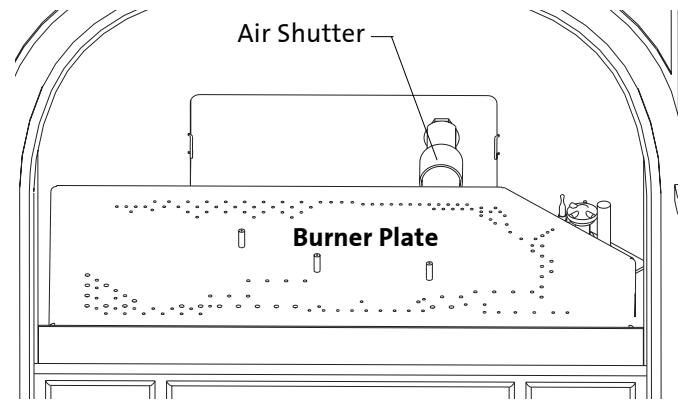

Figure 23. Remove the Air Shutter and Burner as a unit.
7. Lift out the Burner Plate: NOTE: There are no screws securing the Burner to the floor of the firebox. Pull the Air Shutter forward and lift the burner together with shutter up and out of the stove as a unit. See fig. 23.